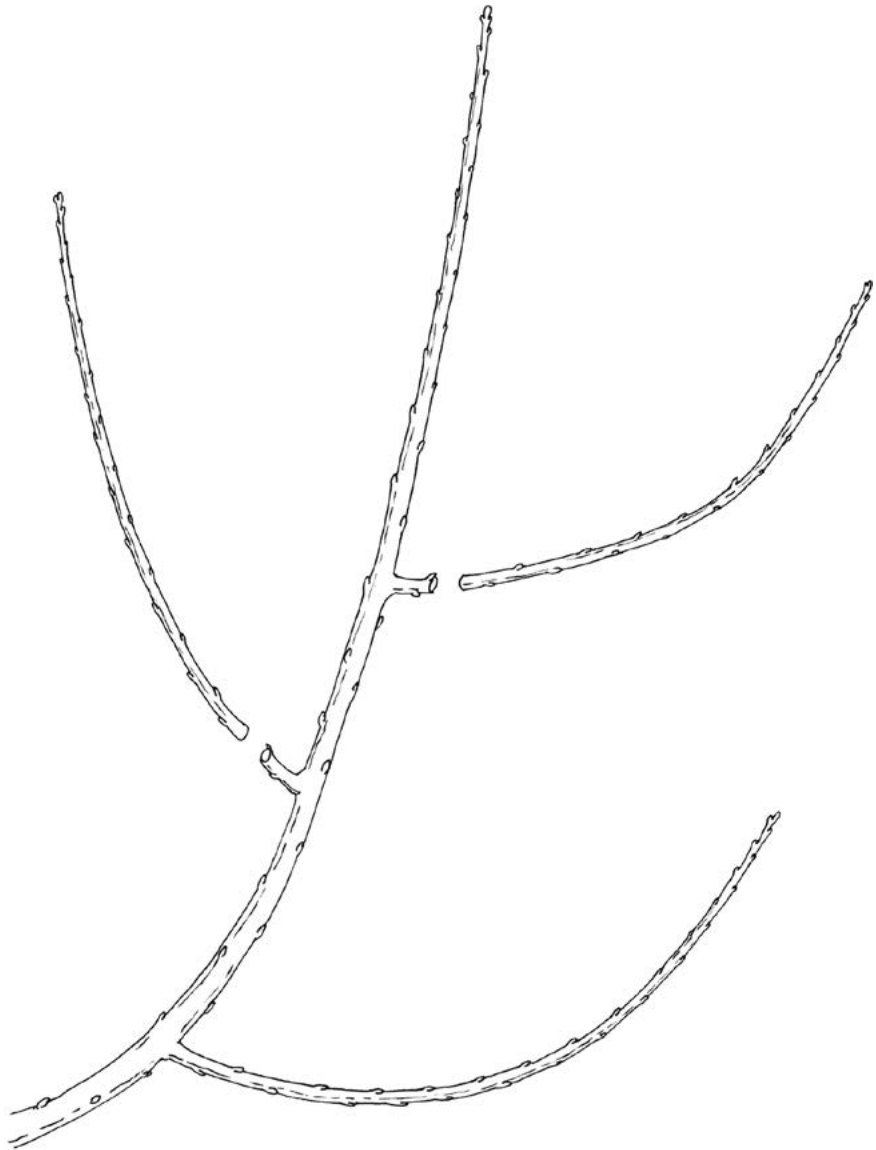

Figure 10
- Remove all easily reached lateral branches. Leaving stubs of approximately 3 inches will allow fruit-bearing axillary buds located at the base of this 1-year-old wood to produce fruit for one season (Figure 10). Non-spur-bearing varieties such as 'Regina' can produce significant fruit at this point. These small stubs will die after fruiting and can be removed the following year.